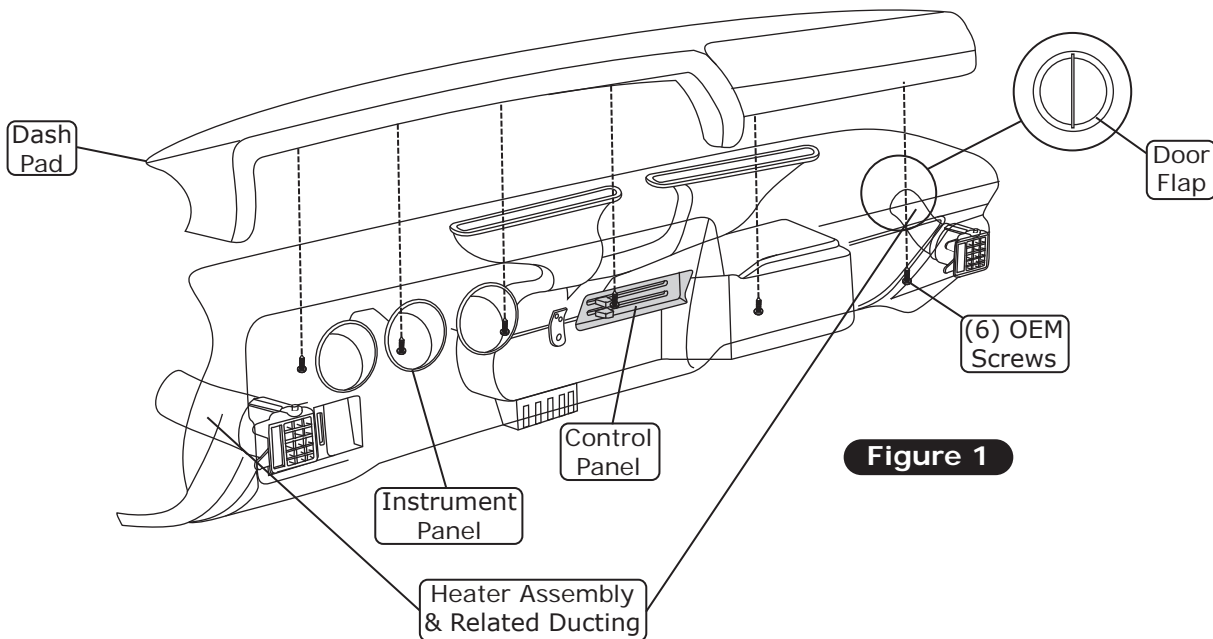

Figure 1
4. Remove the lower dash by removing the (8) OEM bolts (retain).
5. Remove all hoses and ducting from the OEM louvers and astro vent door (if equipped) (See Figure 1, below).
8. Remove the passenger-side kick panel/fresh air door assembly as shown in Figure 1, Page 8.